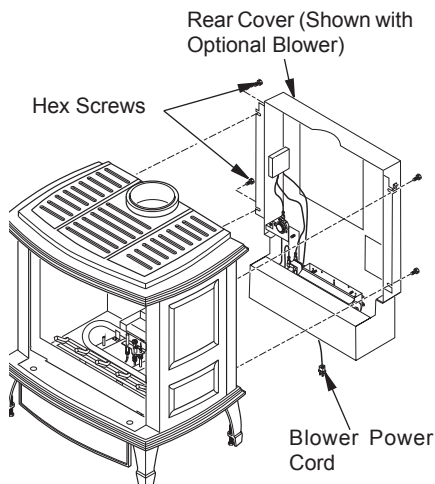

Figure 19 - Installing Rear Cover (Shown with Optional Blower Accessory)
2. Using hex screws provided, attach rear cover to back of stove body. See Figure 19, page 11. **IMPORTANT:** This rear cover must be securely in place before venting pipes are installed.